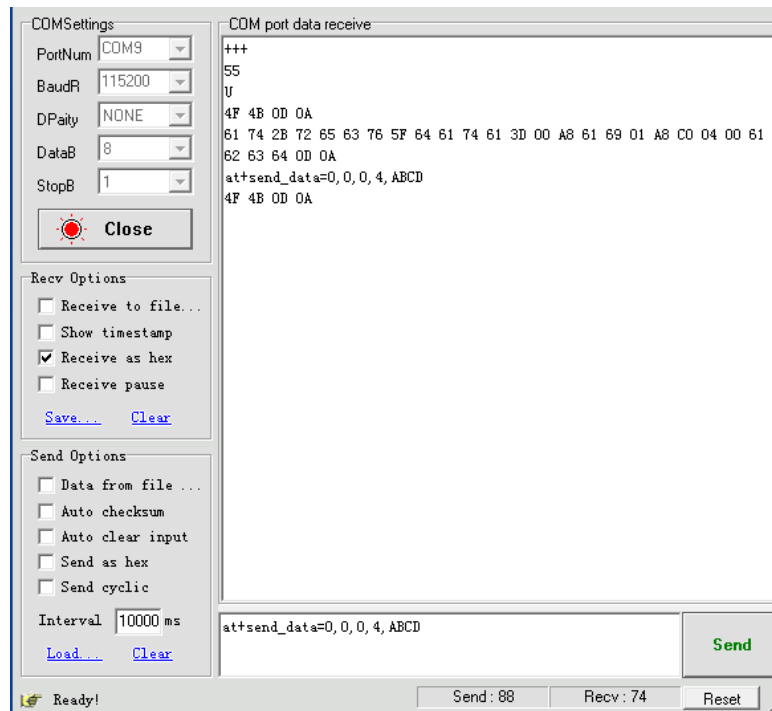

Figure 2-3 Module Data Sending and Receiving
3. The TCP Client sends a string to the TCP Server, namely, send data “ABCD” from the serial port to the TCP/UDP Test tool (Figure 2-3).